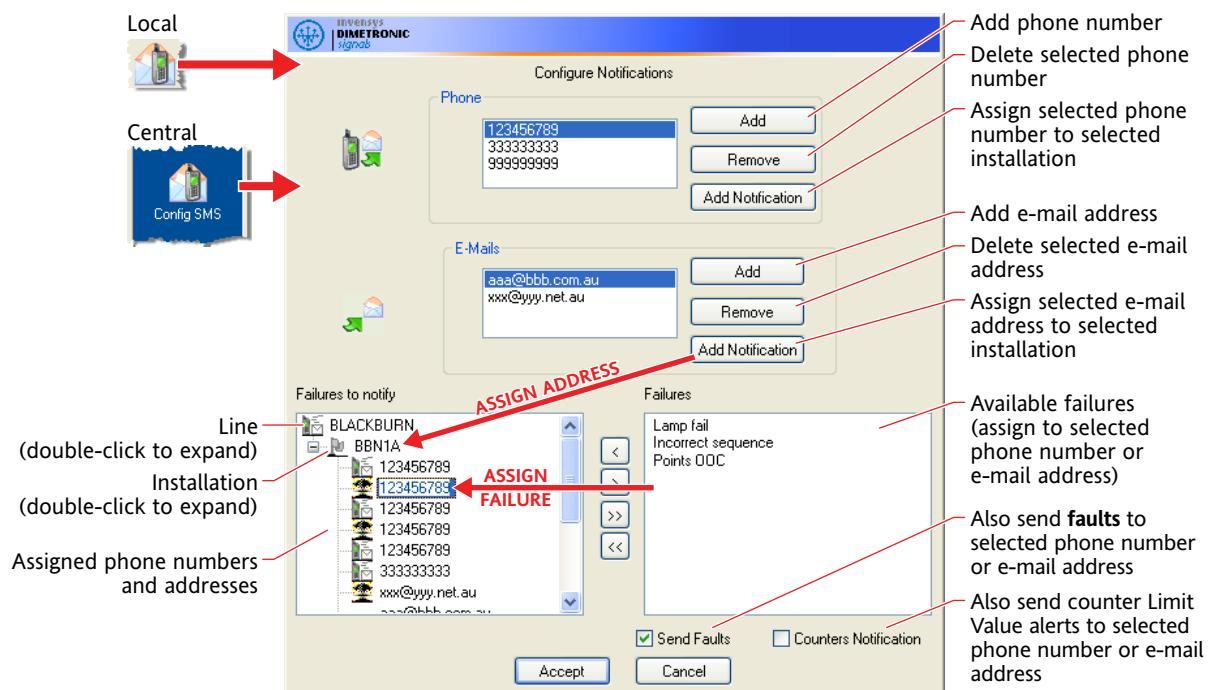

Figure 4.45 Configure Notifications dialog box
- The Configure Notifications dialog box opens (figure 4.45).
- e) If you also want to send all fault messages to the selected number or address, tick **Send Faults** (figure 4.45).
- f) If you also want to send all counter Limit Value alert messages to the selected number or address, tick **Counters Notification** (figure 4.45).